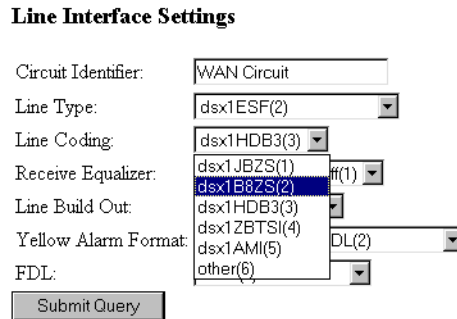

Figure 45. Line Coding pull-down menu with dsx1B8ZS(2) selected
- From the *Line Coding* pull-down menu (figure 45), select *dsx1B8ZS(2)* or *dsx1AMI(5)*.